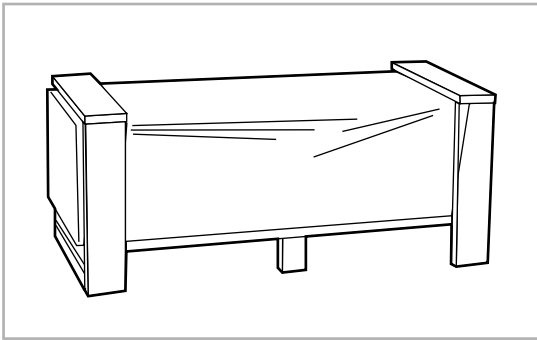

Figure 3.1
1) The package includes the heater, heater blocks (a) and small heater stones (b). Unpack the components with the box placed horizontally (see Figures 3.1 and 3.2).